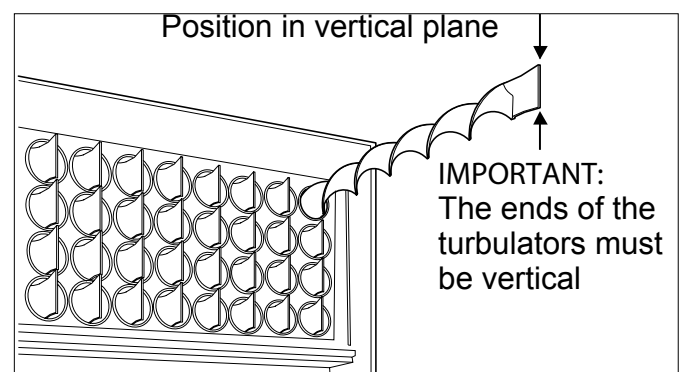

Figure 11-5: Turbulators in Vortex Pro Combi boilers
7. Pull out the spiral turbulators from the heat exchanger tubes. See Figure 11-5. Clean the turbulators using a stiff brush.